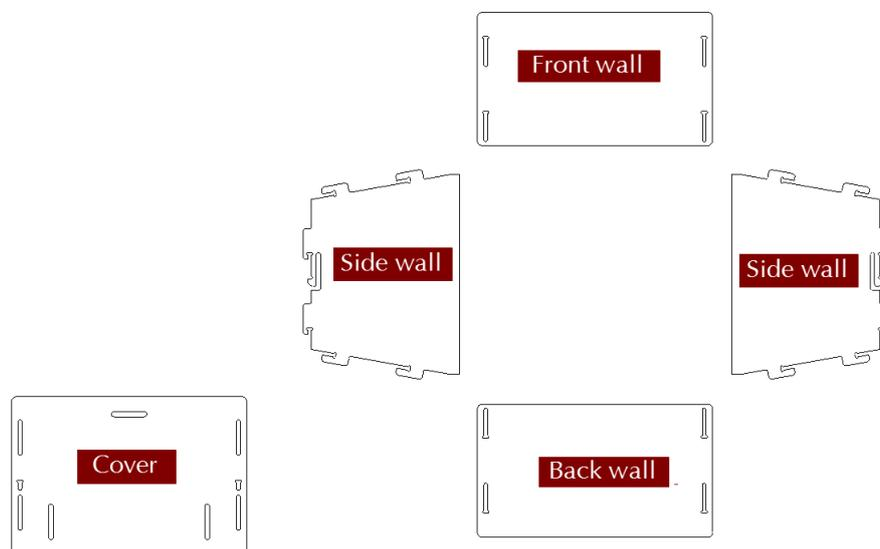
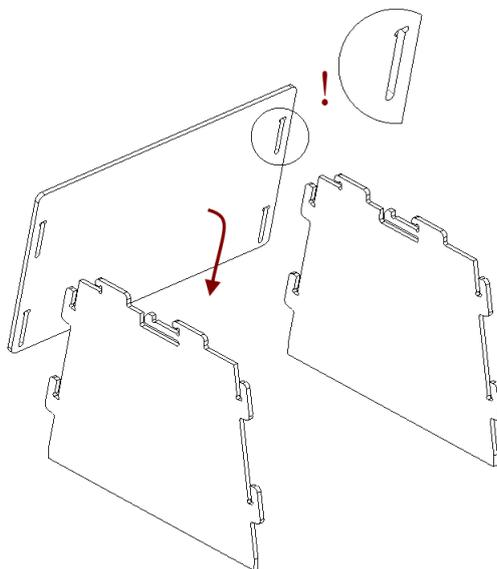
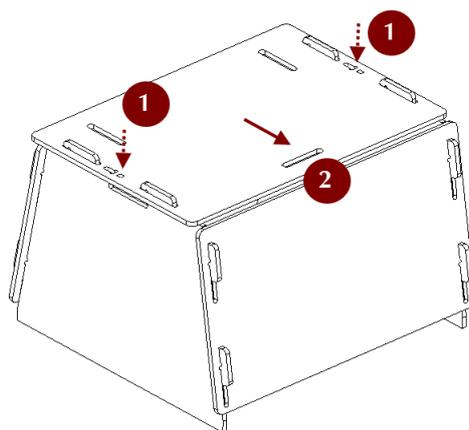

Figure 140: Parts of the scanner stand.
Figure 141: Assembling the front wall.
Figure 144: Latching the cover.
The scanner stand comes unassembled with Artec Spider and consists of five parts (see Figure 140): two side walls, one front and one back wall (these parts are identical, however), and a cover. Before beginning assembly, lay them all out as Figure 140 shows. Then follow these steps:
1. Raise the two side walls to the upright position, as Figure 141 shows. Noting carefully the orientation of the T-shaped slot, install the front wall to the side walls using the two pairs of hooks. Press the front wall and slide it down against the stop. Make sure the three walls are properly aligned with each other.
4. Press your thumbs against the T-shaped holes on the cover and shift it toward the back wall until you hear a click (see Figure 144).
**Note:** To disassemble the stand, release the detents in the cover's T-shaped slots (see Figure 140) using a thin object like a ballpoint pen. Repeat the assembly steps in reverse order (from Figure 144 to Figure 141), moving the parts in the opposite directions.